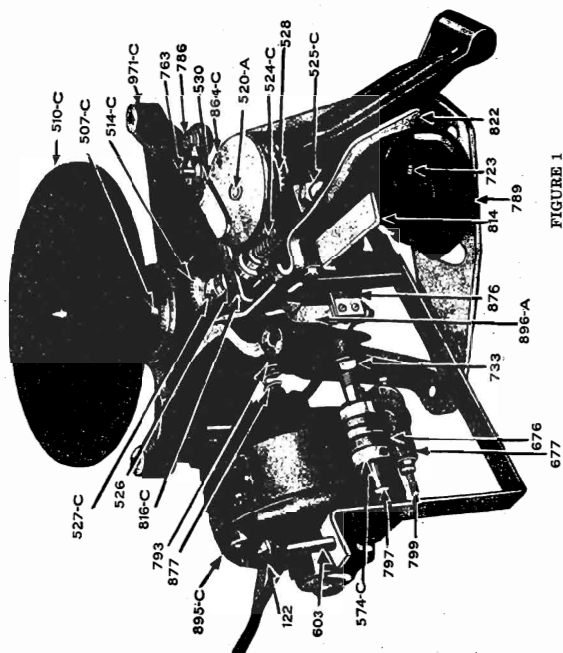

FIGURE 1
To align the spring if horizontally off center loosen the four collars (see 874-C, figure 1) on Screw Studs 797. This will then allow either side of Motor 895-C to be moved back or forth on the studs as the case demands. To align the spring if off center vertically, the Hex. nut on Stud 799 should be loosened or tightened depending upon whether the motor is to be tipped up or down.
**END PLAY IN CAM WORM SHAFT 524-C, FIGURE 1.** Use Adjusting Screw 525-C. The end play in this shaft should be just enough to be detected when shaft is moved back and forth by hand. If end play is too great, the record will not automatically stop when the last record has been reproduced.
**CLUTCH SWITCH 896-A, FIGURE 1.** This switch is adjusted by loosening the two screws
**END PLAY IN DRIVE SHAFT 793, FIGURE 1.** Use Adjusting Screw 706-C, figure 4. The end play in this shaft should be just enough to be detected when shaft is moved back and forth by hand. If end play is too great, the reproduction of a record will have a wavering effect.